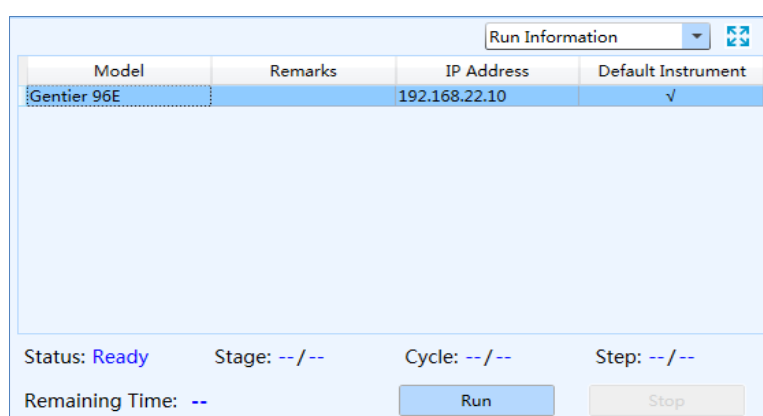

Figure D-7.4. Run Monitoring Interface - Run Info Function Module
4. **Run Info:** display the current instrument information and the real-time running status, such as the *Stage*, *Step*, *Cycle* and *Remaining Time* of the current experiment, as shown in figure D-7.4.